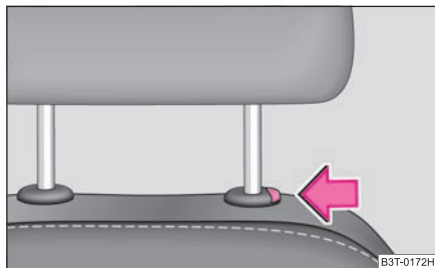

Fig. 66 Removing a head restraint
- Move the head restraint downwards if required by pressing and holding the locking button with one hand ⇒ fig. 66 and by pressing with the other hand the head restraint downwards.
- Press the locking button in the direction of arrow ⇒ fig. 66 and pull the head restraint out.